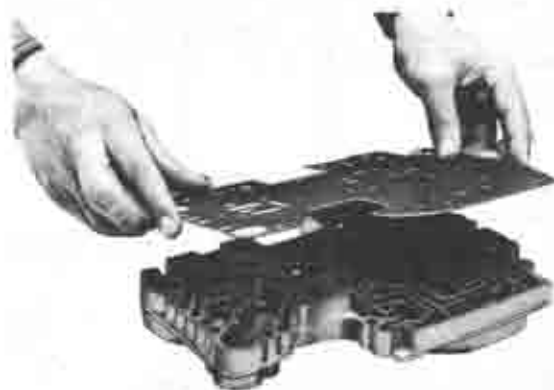

Fig. 2-41 Removing separate plate
2. Disconnect the lower valve body, separate plate and upper valve body by removing the attaching bolts as shown in Fig. 2-41. When taking out the separate plate, be careful not to lose the orifice check valves and springs in the lower valve body.